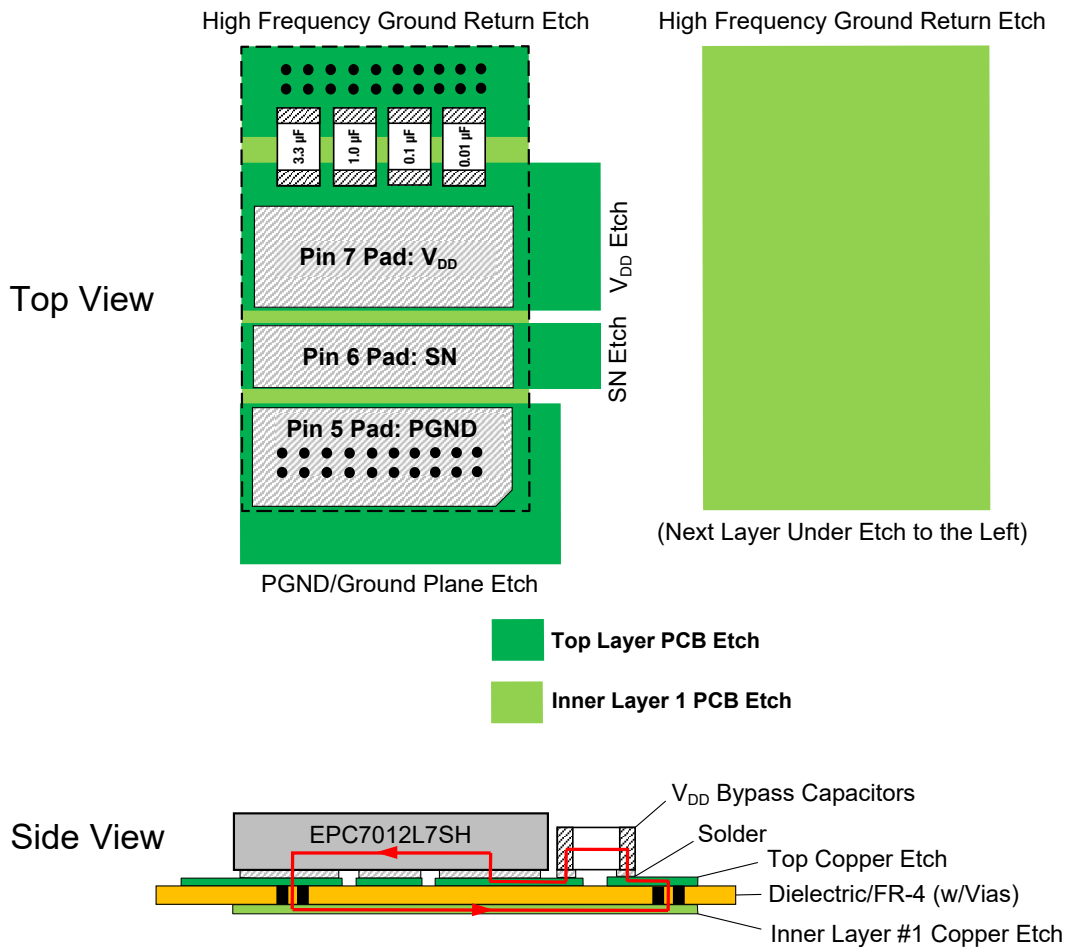

Figure 4. Recommended Optimum V_{DD} -to-PGND Power Supply Bypass Capacitor Layout (Not to Scale)
Because of the extremely high rate-of change of voltage seen at the SN output it is recommended that a minimum of one (1) 3.3 μF microfarad ceramic capacitors, one (1) 1.0 microfarad ceramic capacitor, one (1) 0.1 microfarad ceramic capacitor and one (1) 0.01 microfarad ceramic capacitor, all with sufficient voltage de-rating, be connected from V_{DD} to PGND. All four of these capacitors should be low ESR types, if possible. It is strongly recommended that these capacitors have the smallest possible case sizes possible such that they inscribe the smallest possible loop area between V_{DD} and PGND so as to minimize the inductance related to this loop area. Also, to reduce the inductive loop between V_{DD} and PGND is strongly recommended that an induction loop cancellation layout of the high frequency power supply capacitors be employed. Figure 4 illustrates the recommended optimum layout and placement for the V_{DD} -PGND high-frequency bypass capacitors.
It should be noted that in Figure 4 that the light green copper etch area on the PCB's inner layer #1 is positioned directly beneath the copper etch clad on the top layer, as indicated by the dashed line.
The requirements of each PCB implementation of the EPC7012L7SH may not allow the recommended optimum layout shown in Figure 4 to be implemented, but care should be taken to keep the recommended layout as physically and mechanically close to it as possible.